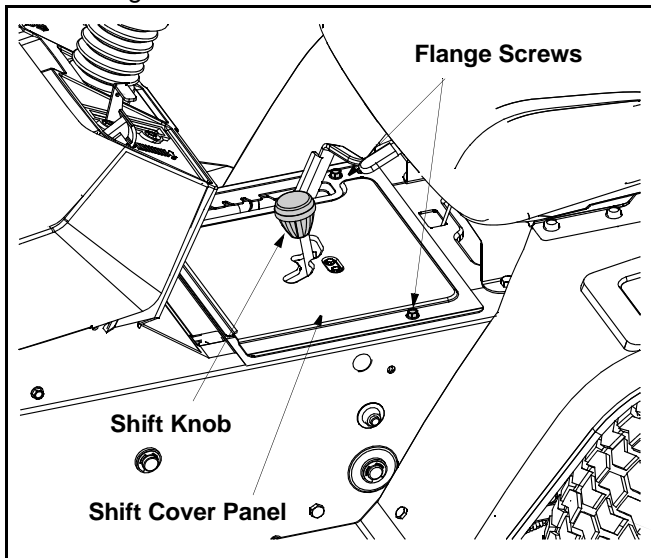

Figure 7
- Unthread the shift knob and remove the two flange screws which secure the shift cover panel in place. See Figure 7.
- Unthread the shift knob and remove the two flange screws which secure the shift cover panel in place. Refer to Figure 7.